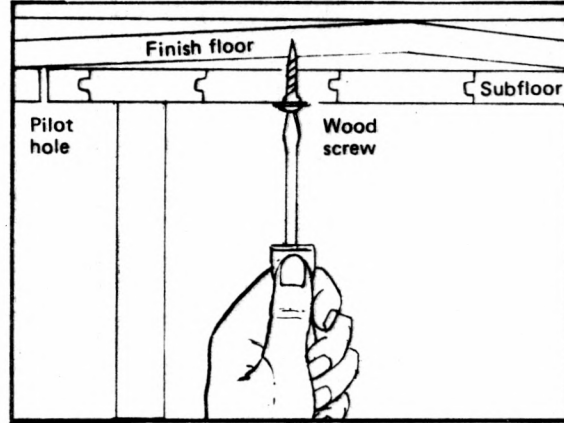

FIG. 10-4 REPAIRING SQUEAKING FLOORING BY SCREWING DOWN FLOORBOARDS FROM BELOW
(2) End-nail the piece of lumber into place between the joists.
c. Screwing down loose floorboards: (see Figure 10-4)
(1) Drill small pilot holes up through the subfloor.
(2) Use 1 in. or 1-1/4 in. wood screws to draw the flooring down to the subfloor.
(3) Use washers on the screws to get better holding power for the screwheads.
(4) Be careful to use the proper size screws so that the floor surface is not damaged by screws coming through.